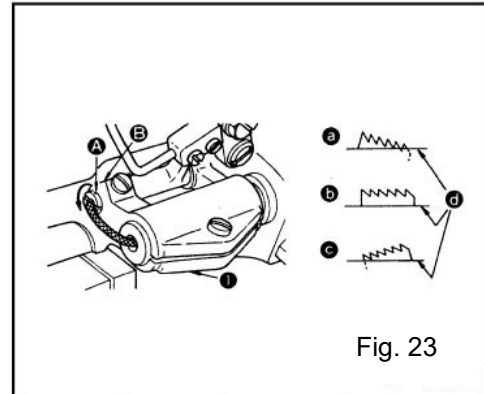

Fig. 23
- a) The standard tilt of the feed dog is obtained when marker dot (A) on the feed bar shaft is aligned with marker dot (B) on feed rocker (1). (Fig.23)